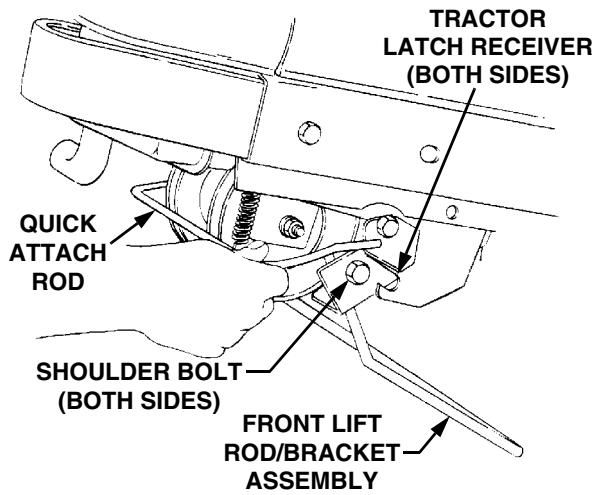

**Figure 45**
- Pass the PTO belt downward, inside the tractor frame, until the belt is below the two tractor front lower pulleys and pull the belt clear of the tractor (See Figure 45).